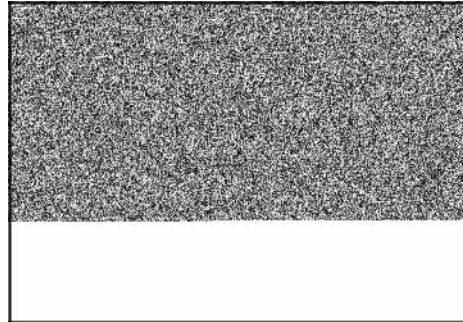

Figure 2
4. Remove the screws (B, Figure 2) and blower housing.